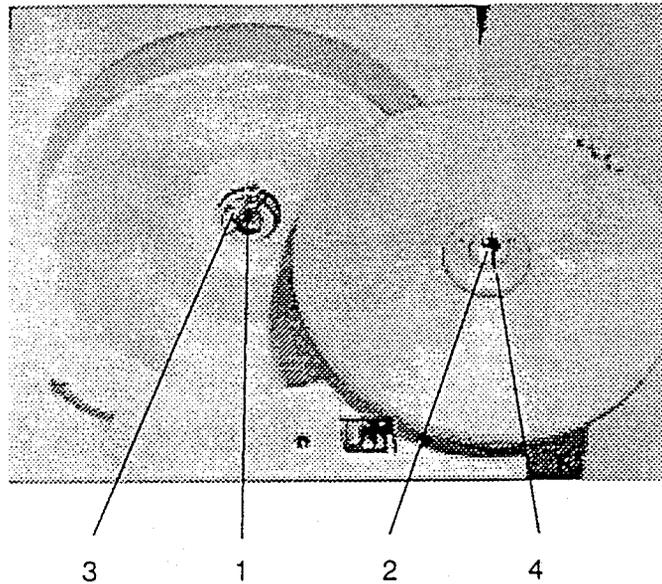

Figure 10
Clean the motor shaft (1) and the rotor mounting hole (2) with a piece of cloth and place the rotor on the motor shaft ensuring that the pins (3) align correctly with the rotor slots (4), (see figure 10).